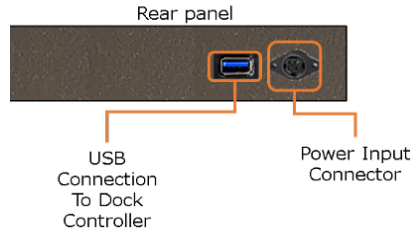

Figure 2
1. Insert the power cable into the power input connector (Figure 2) and connect the power cable to a mains supply.
2. Insert the USB cable into the USB connection (Figure 2) on the docking station and insert the other end into the USB connection on a PC that's running the dock controller software.